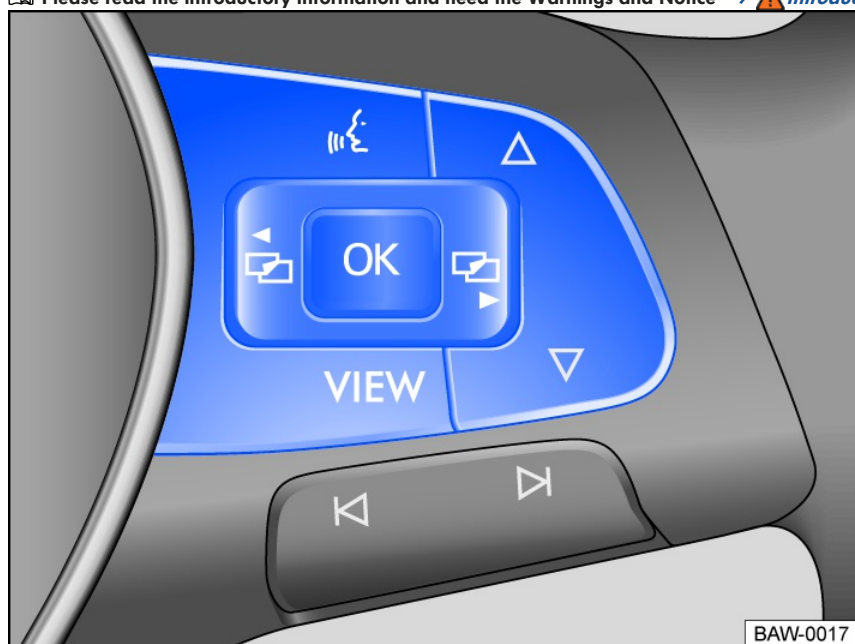

Fig. 17 Right side of the multi-function steering wheel: buttons for operating the menus and information displays in the instrument cluster
Menus cannot be accessed when a priority 1 warning message is displayed $\Rightarrow$ Warning and information texts. You can confirm and hide some warning messages using the button on the multi-function steering wheel fig. 17.
- If a message or vehicle icon is displayed, press the fig. 17 button, repeatedly if necessary.
- To display a menu and to scroll through the menu, press the or button fig. 17.
- To open the displayed menu or information display, press the button fig. 17 or wait until the menu or the information display opens automatically after several seconds.
- Press the or arrow buttons fig. 17 in the displayed menu until the desired menu item is marked. The item is marked with a frame around it.
- Press the fig. 17 button to apply the desired changes.
- Press the or button fig. 17.
- You can switch between the current and previous menu using the button fig. 17.
- You can use the **VIEW** button fig. 17 to switch between the classic display of dials, the large platform without information profiles, and the enhanced view with highlighted information profiles. The classic display shows the large dials on the right and left side, and the selected information profile is displayed in the center. Press and hold the **VIEW** button to select from the preset information profiles in the list: